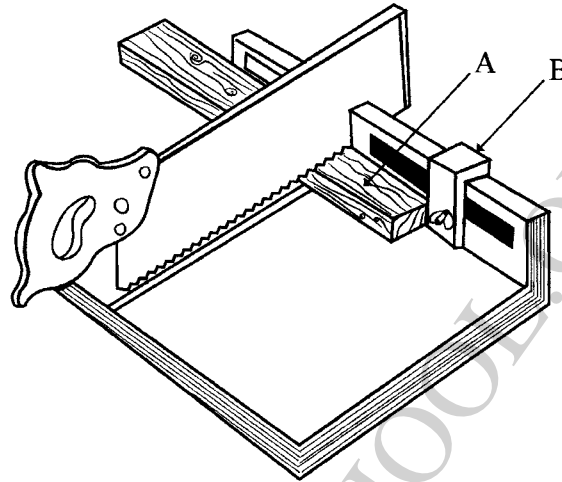

Figure 6
- (b) Figure 6 shows a device used in a wood workshop.